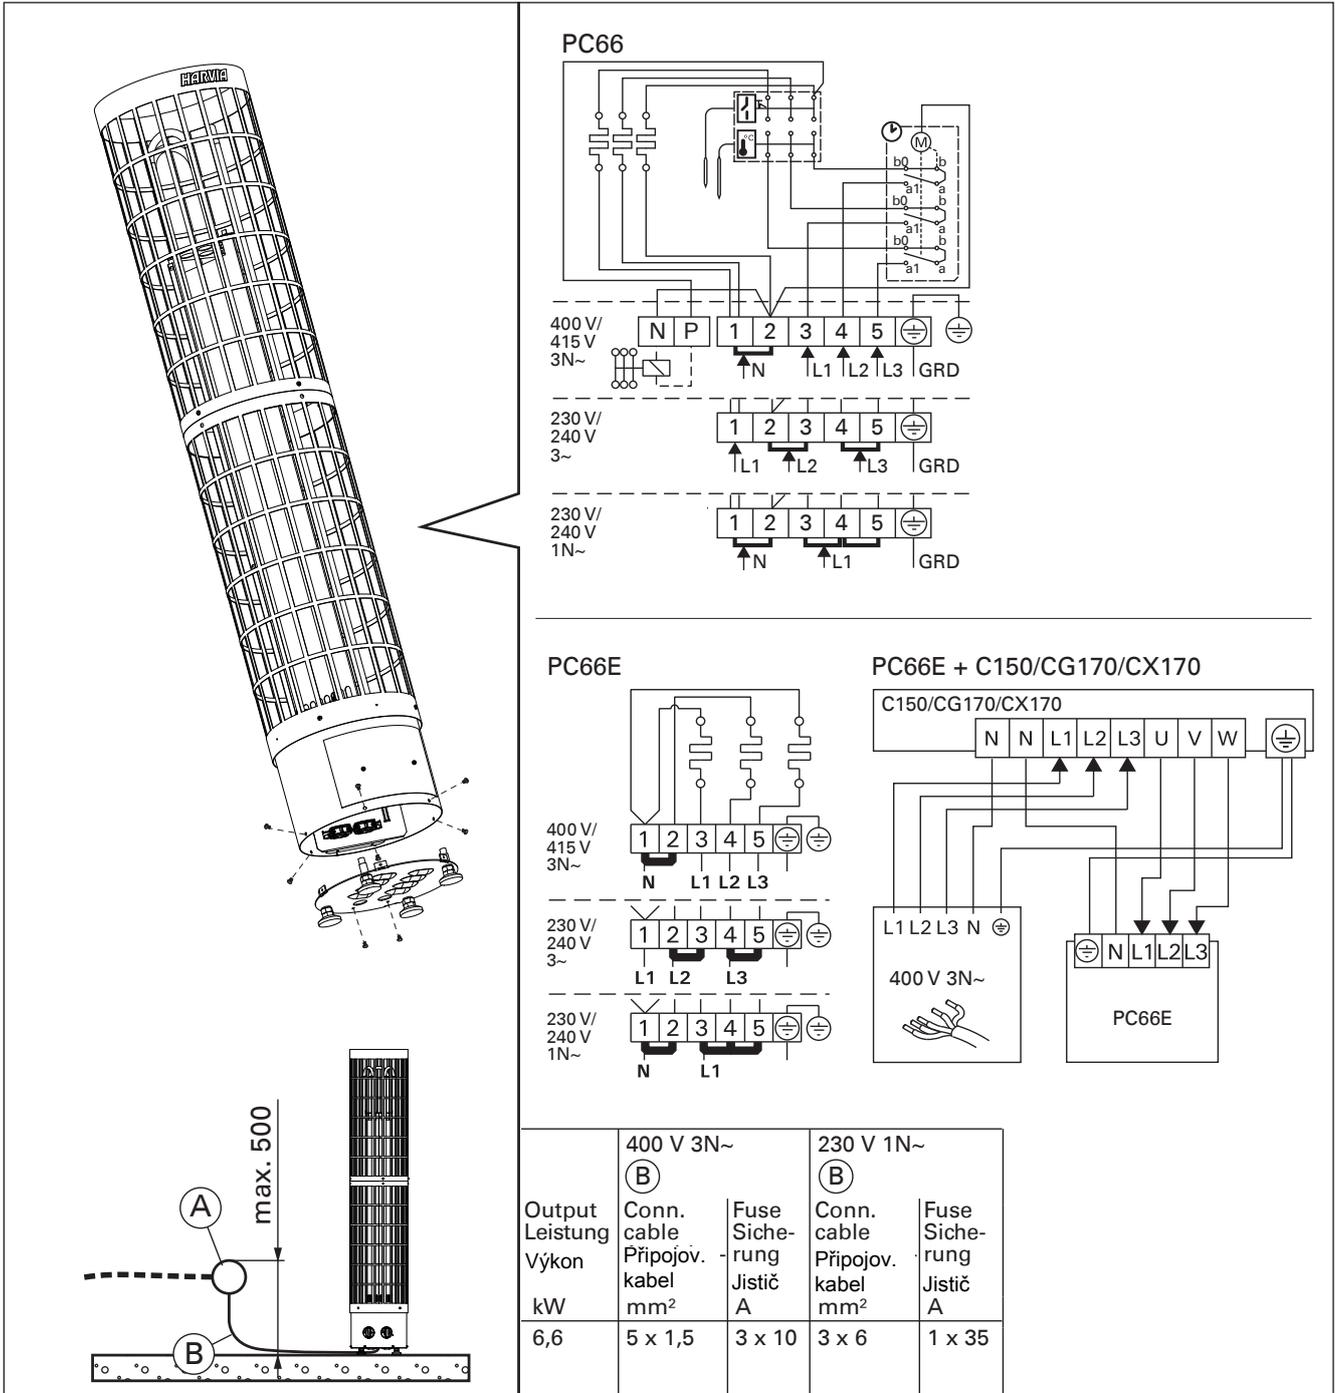

Figure 8. Electrical connections
- The heater is semi-stationarily connected to the junction box (figure 8: A) on the sauna wall. The junction box must be splash-proof, and its maximum height from the floor must not exceed 500 mm.
- The connecting cable (figure 8: B) must be of rubber cable type H07RN-F or its equivalent. **NOTE!** Due to thermal embrittlement, the use of PVC-insulated wire as the connecting cable of the heater is forbidden.
- PC66: In addition to supply connectors, heater is equipped with a connector (P), which makes the control of the electric heating possible (figure 8). Voltage control is transmitted from the heater when it is switched on. The control